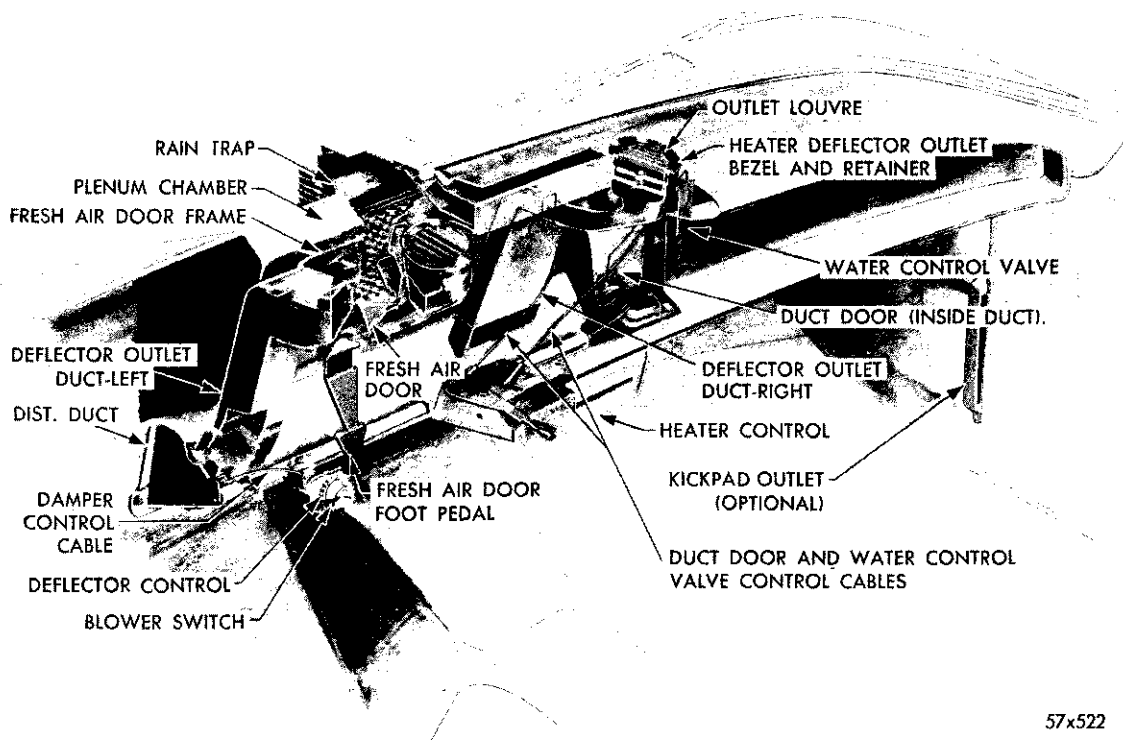

Fig. 13—Heater Installation (Driver's Side)
29. REMOVING AND INSTALLING CORE (Fig. 13)